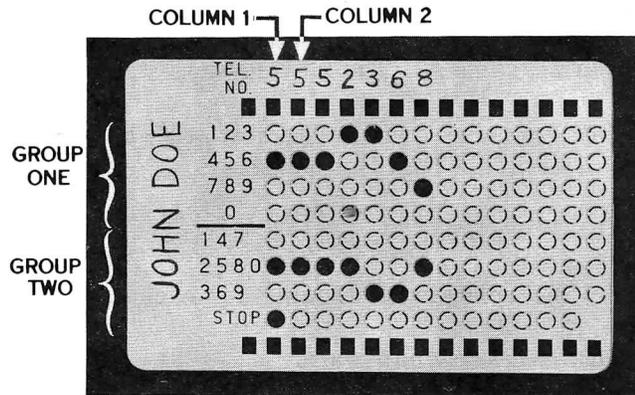

Fig. 7 - Card Coded for 7-Digit Telephone Number
5.01 It is important to properly punch and check cards for accuracy to ensure satisfactory results. (See Fig. 7 and 8.)
- (1) Write name and telephone number in spaces provided as shown in Fig. 7 and 8.
- (2) Convert exchange letters to numbers. For example: use 2 for A, B, or C and 7 for P, R, or S.
Note: There are two groups of numbers 1 through 0 on the card. (See Fig. 7.)
- (3) In Fig. 7 the first digit of the telephone number is 5. In column 1, locate digit 5 in the first group of numbers and punch out the perforation with a pencil or ball-point pen. In the same column, locate digit 5 in the second group of numbers and again punch out the perforation.